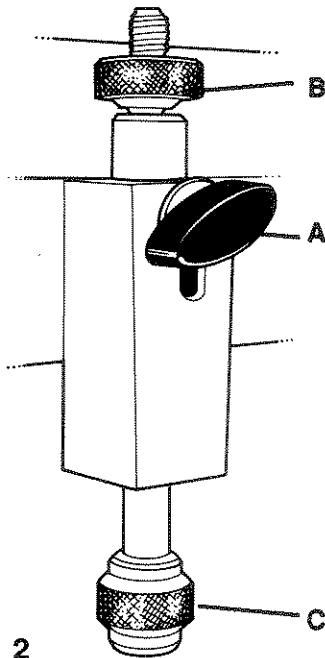

Figure 2
The depth limiter has two locking knobs: the vertical position knob (A) and the adjustment locking knob (B). The adjusting knob (C) is located at the bottom end of the limiter (see Figure 2).